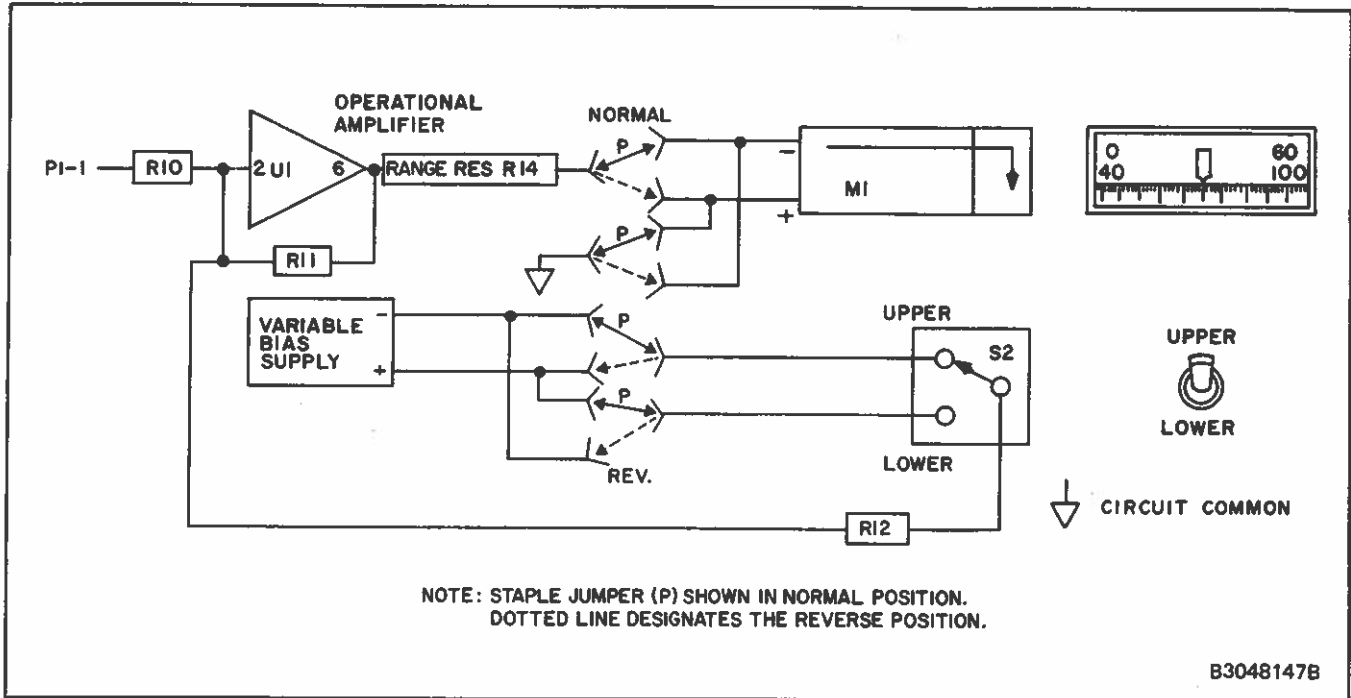

FIGURE 41 – Simplified Schematic for Measured Variable Stations (TY10 and TY11)
4. Position reverse input polarity staple jumpers to NOR position. (In NOR, input signal range is  $-10$  to  $+10$  V dc. In REV, input signal range is  $+10$  to  $-10$  V dc, see NOTE on Figure 41).
Refer to Figure 41. The Measured Variable Station consists of a variable bias supply, integrated circuit operational amplifier, horizontal meter, meter range resistor, reversed input polarity switch and meter scale select switch. In the circuit, the variable bias supply converts the measured variable input signal to  $6$  V dc range signal. Amplifier U1 buffers the converted signal providing circuit isolation. The output of U1 drives the horizontal meter thru a range resistor R14. Staple jumpers change the bias polarity and reverses the meter connections allowing the Station to accept reversed polarity input signals. Switch S2 selects the upper or lower meter scale.